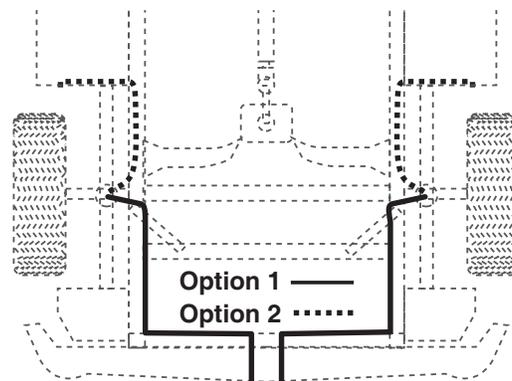

fig. 10
6. Route the air line along the frame to the air fitting on the air spring. Keep at least 6" of clearance between the air line and heat sources, such as the exhaust pipes, muffler, or catalytic converter. Avoid sharp bends and edges. Use the plastic tie straps (BB) to secure the air line to fixed, non-moving points along the chassis. Be sure that the tie straps are tight, but do not pinch the air line (Figure 10).